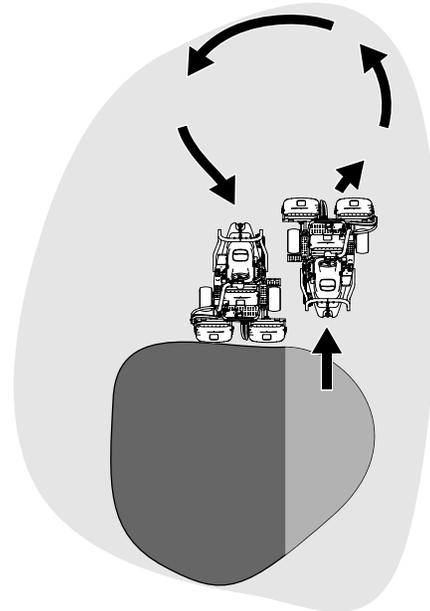

Figure 32
6. To cut down on operating time and to ease the lineup for the next pass, momentarily turn the machine in the opposite direction, then turn it in the direction of the uncut portion. This movement is a tear-shaped turn (Figure 32), which quickly lines the machine up for your next pass.